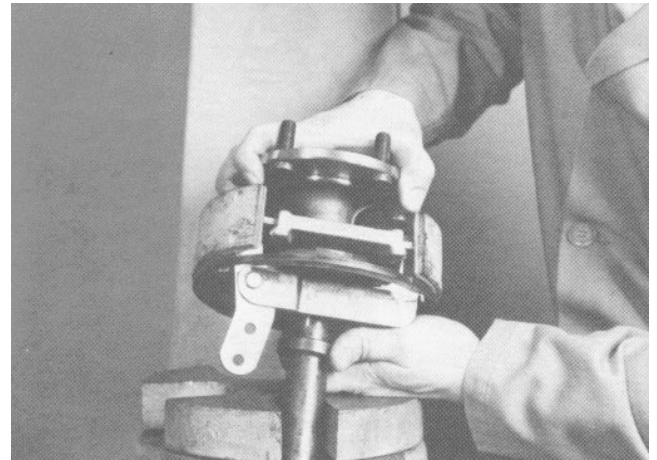

Figure 14
11. Slide a new retaining ring on the axle shaft and support the shaft and ring in a suitable press (Fig. 14). Press the retaining ring firmly against the bearing.